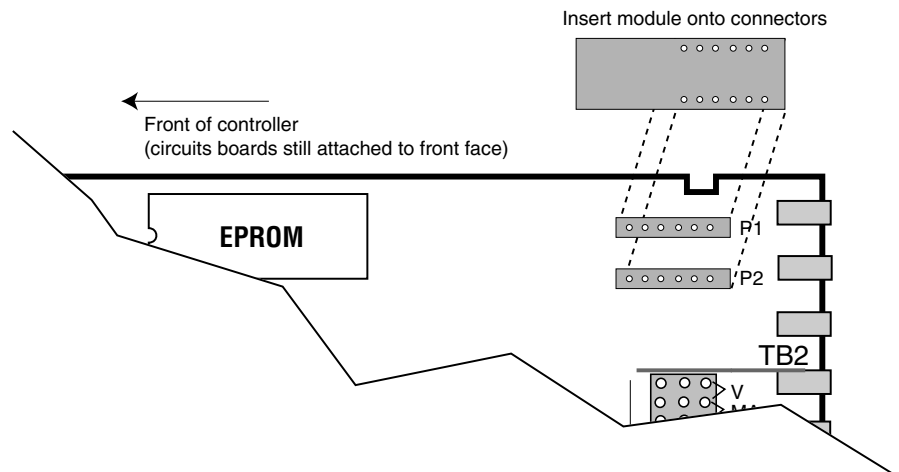

Figure 4.4
4. Orient the Communications Module as shown, and attach it to Connectors P1 and P2 as shown in *Figure 4.4*.